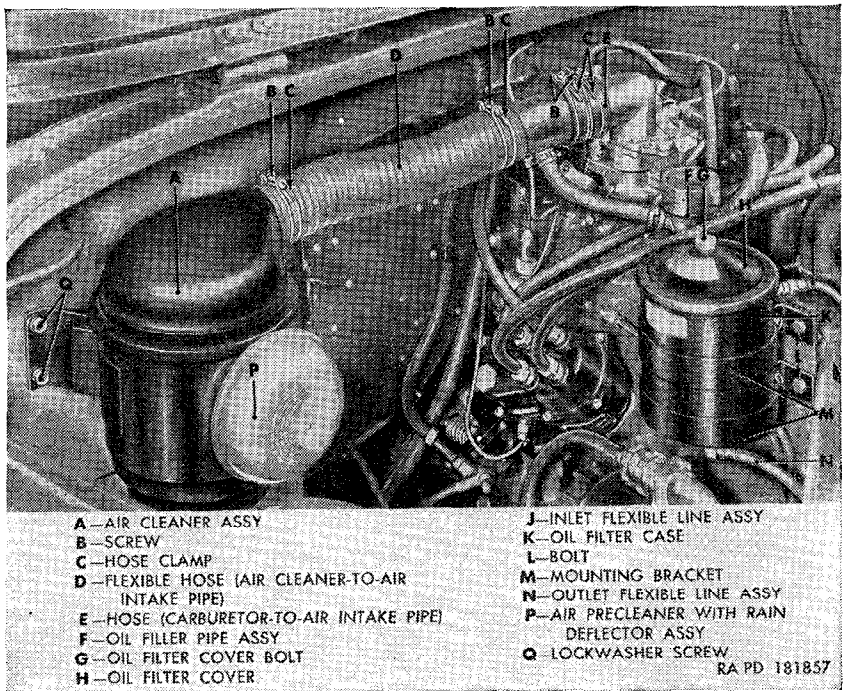

Figure 66. Air cleaner and oil filter assemblies—installed.
- (b) Unscrew the nut on the vent line (A) end from the vent line elbow (B). Unscrew the nut on the fuel line (E) end from the fuel line elbow (C).
- (c) Unscrew the two nuts (G) from the studs. Raise the carburetor assembly (W) to clear the studs and remove the throttle valve body-to-manifold insulator (F). Discard insulator.
- (a) Install a new throttle valve body-to-manifold insulator (F) over the studs in the cylinder head.
- (b) Install the carburetor assembly (W) over the studs and into the air intake pipe hose and tighten the screw (B, fig. 66) in the hose clamp (C, fig. 66). Screw the two  $\frac{3}{8}$ -inch nuts (G) on the studs and tighten evenly.
(fig. 66)